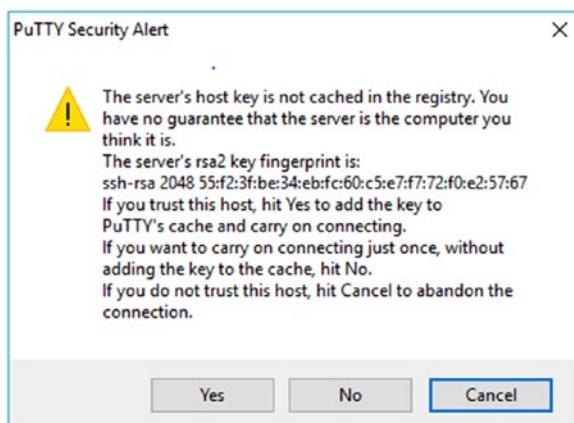

Figure 2-14. Security warning on first SSH connection with PuTTY
4. You will likely get a security warning, as shown in Figure 2-14, but we know that this is the proper connection, so click **Yes**.